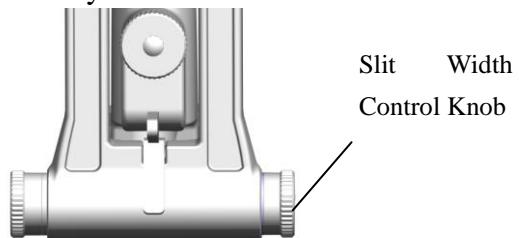
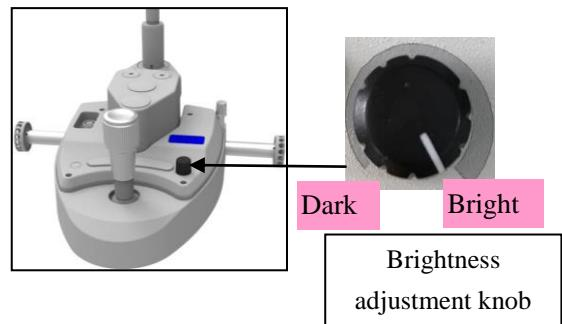
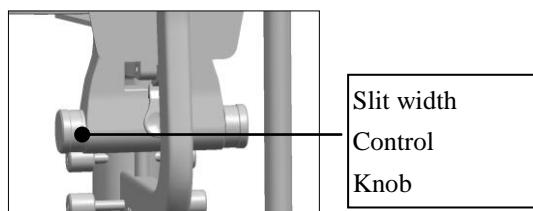

Figure 2.3.1
Figure3.1.2
Fig3.4.1
2. Insert the focusing test rod (Fig. 2.1.7) and turn the slit width control knob (see Figure 2.3.1). The illumination spot should be observed on the black plane of the focusing test rod. The brightness change of the illumination should be
observed when rotate the brightness adjustment knob (see Figure 3.1.2)
5. The brightness change of the illumination should be observed when rotate the brightness adjustment knob (see Figure 3.1.2)
Turn on the main power switch and turn the brightness adjustment knob to the middle (see Figure 3.1.2). Adjust the slit width adjustment knob (see Figure 2.3.1) to make the slit width 2 to 3 mm.
1. Change the brightness of the slit image: Rotate the slit width control knob (see Figure 2.3.1) to change the slit width from 0mm to 12mm (when the width is adjusted to 14mm, the slit becomes circular), the knob has a scale to indicate roughly the width value (see Figure 3.4.1).